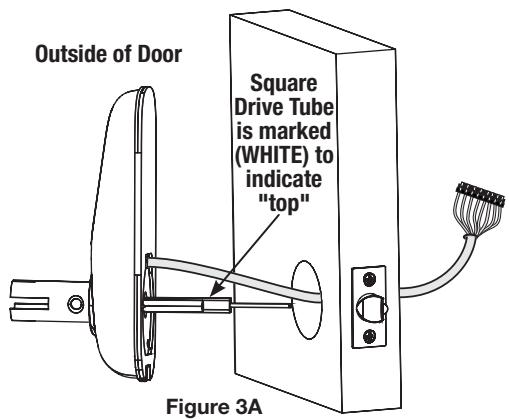

Figure 3A
1. From outside of door, position the outside escutcheon by first routing the cable through 2-1/8" diameter hole and **under** the latch (Fig. 3A & B), then insert posts* and tailpiece into the latch.
- A. Position the outside escutcheon by routing the cable through 2-1/8" diameter hole (Fig. 3A), under the latch.
NOTE: The "tops" of both the square drive tube and the tailpiece it contains are **marked** to indicate their proper orientation (Fig. 3A & 3B).